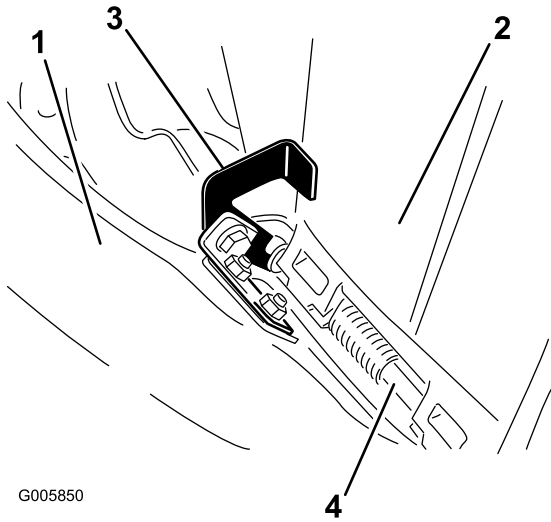

Figure 27
3. On the top of the chute, engage the hook shaped latch around pivot rod of the deflector assembly as shown in (Figure 27).